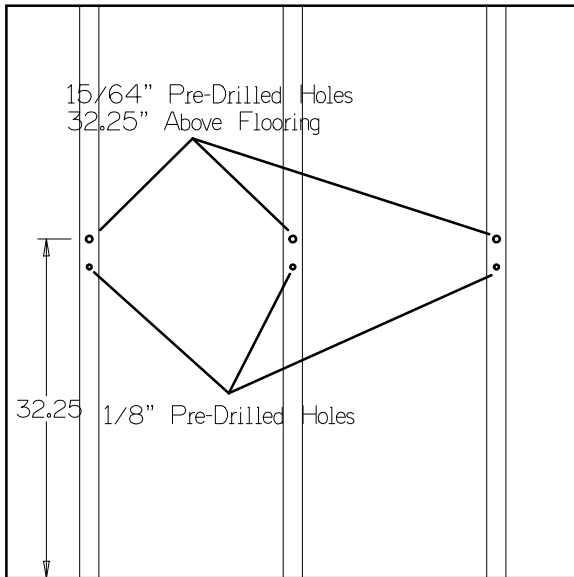

Figure 2
- > Using a 15/64" drill bit, pre-drill holes 2.5" deep on each of the top marks on the 36" line. Then using a 1/8" drill bit, pre-drill holes 2" deep on each of the bottom marks. Refer to figure 2 below